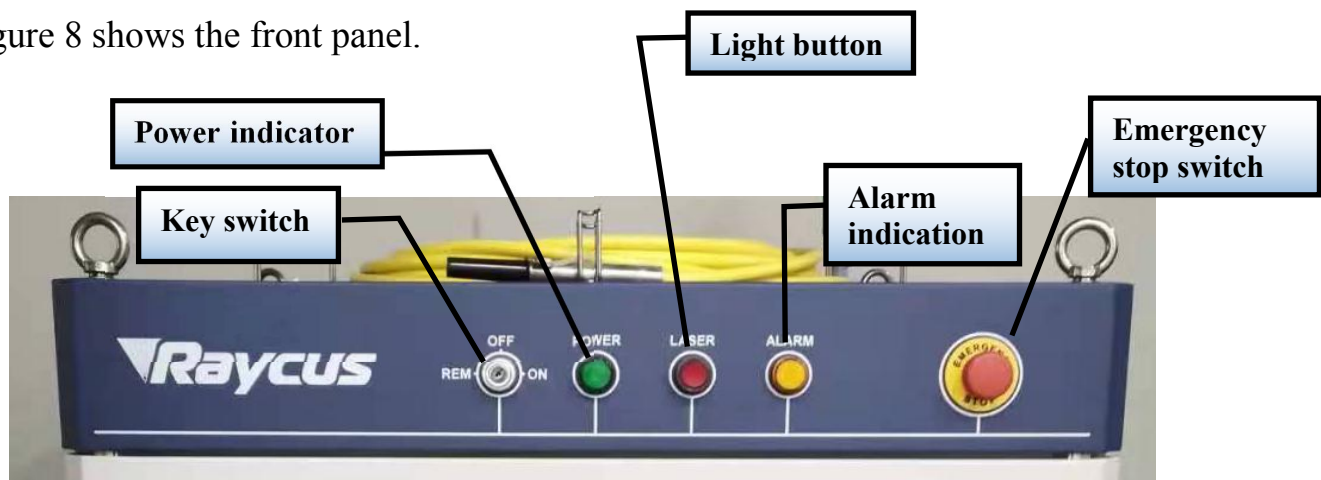

Figure 8 Front view of the panel.
- (1) Place the laser horizontally in a suitable position and fix it as necessary;
- (2) Before the laser is powered on, Please check the power supply has the correct voltage (380VAC \pm 10%, 50/60Hz, See Table 2 Product Technical Data Sheet for details.), please refer to the technical parameter table of Table 2 for details, whether the grounding line is well grounded.
- (3) Connect the power cable and control cable to the product when power supply is OFF.
- (4) Clamp the water pipes on topipe connector, run the chiller to check if there is any leakage in the water circulation.
- (5) Check the output head and clean it before installation. This procedure must be performed by Raycus personnel or person authorized by Raycus.
- (6) Prevent the delivery cable from treading, pinching or excessive bending during installation.
- (7) Make sure the environment is clean, or the output head may be contaminated. It is prohibited to use fan during installation, which will cause dust in the air.
- (8) The minimum bending radius of the transmission cable of the laser shall not be less than 20cm in the non-working state (such as transport and storage). The minimum bending radius should not be less than 30cm when the laser is work.
- (9) Users can employ four lifting rings or rollers on the top or bottom of the device to carry or move it, as shown in figure8 (please check whether the lifting rings are installed firmly and whether the rollers are fully mobile before transporting the device).
Figure 8 shows the front panel.